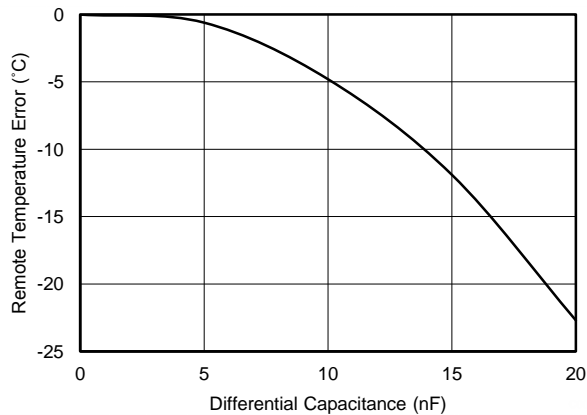

Figure 5. REMOTE TEMPERATURE ERROR vs DIFFERENTIAL CAPACITANCE
(1) Diode-connected configuration provides better settling time. Transistor-connected configuration provides better series resistance cancellation.
(2) R_S (optional) should be $< 1\text{ k}\Omega$ in most applications. Selection of R_S depends on application; see the Filtering section.
(3) C_{DIFF} (optional) should be $< 1000\text{ pF}$ in most applications. Selection of C_{DIFF} depends on application; see the Filtering section and Figure 5, Remote Temperature Error vs Differential Capacitance.
The TMP451 tolerates differential input capacitance of up to 1000 pF with minimal change in temperature error. The effect of capacitance on sensed remote temperature error is illustrated in Figure 5, Remote Temperature Error vs Differential Capacitance.